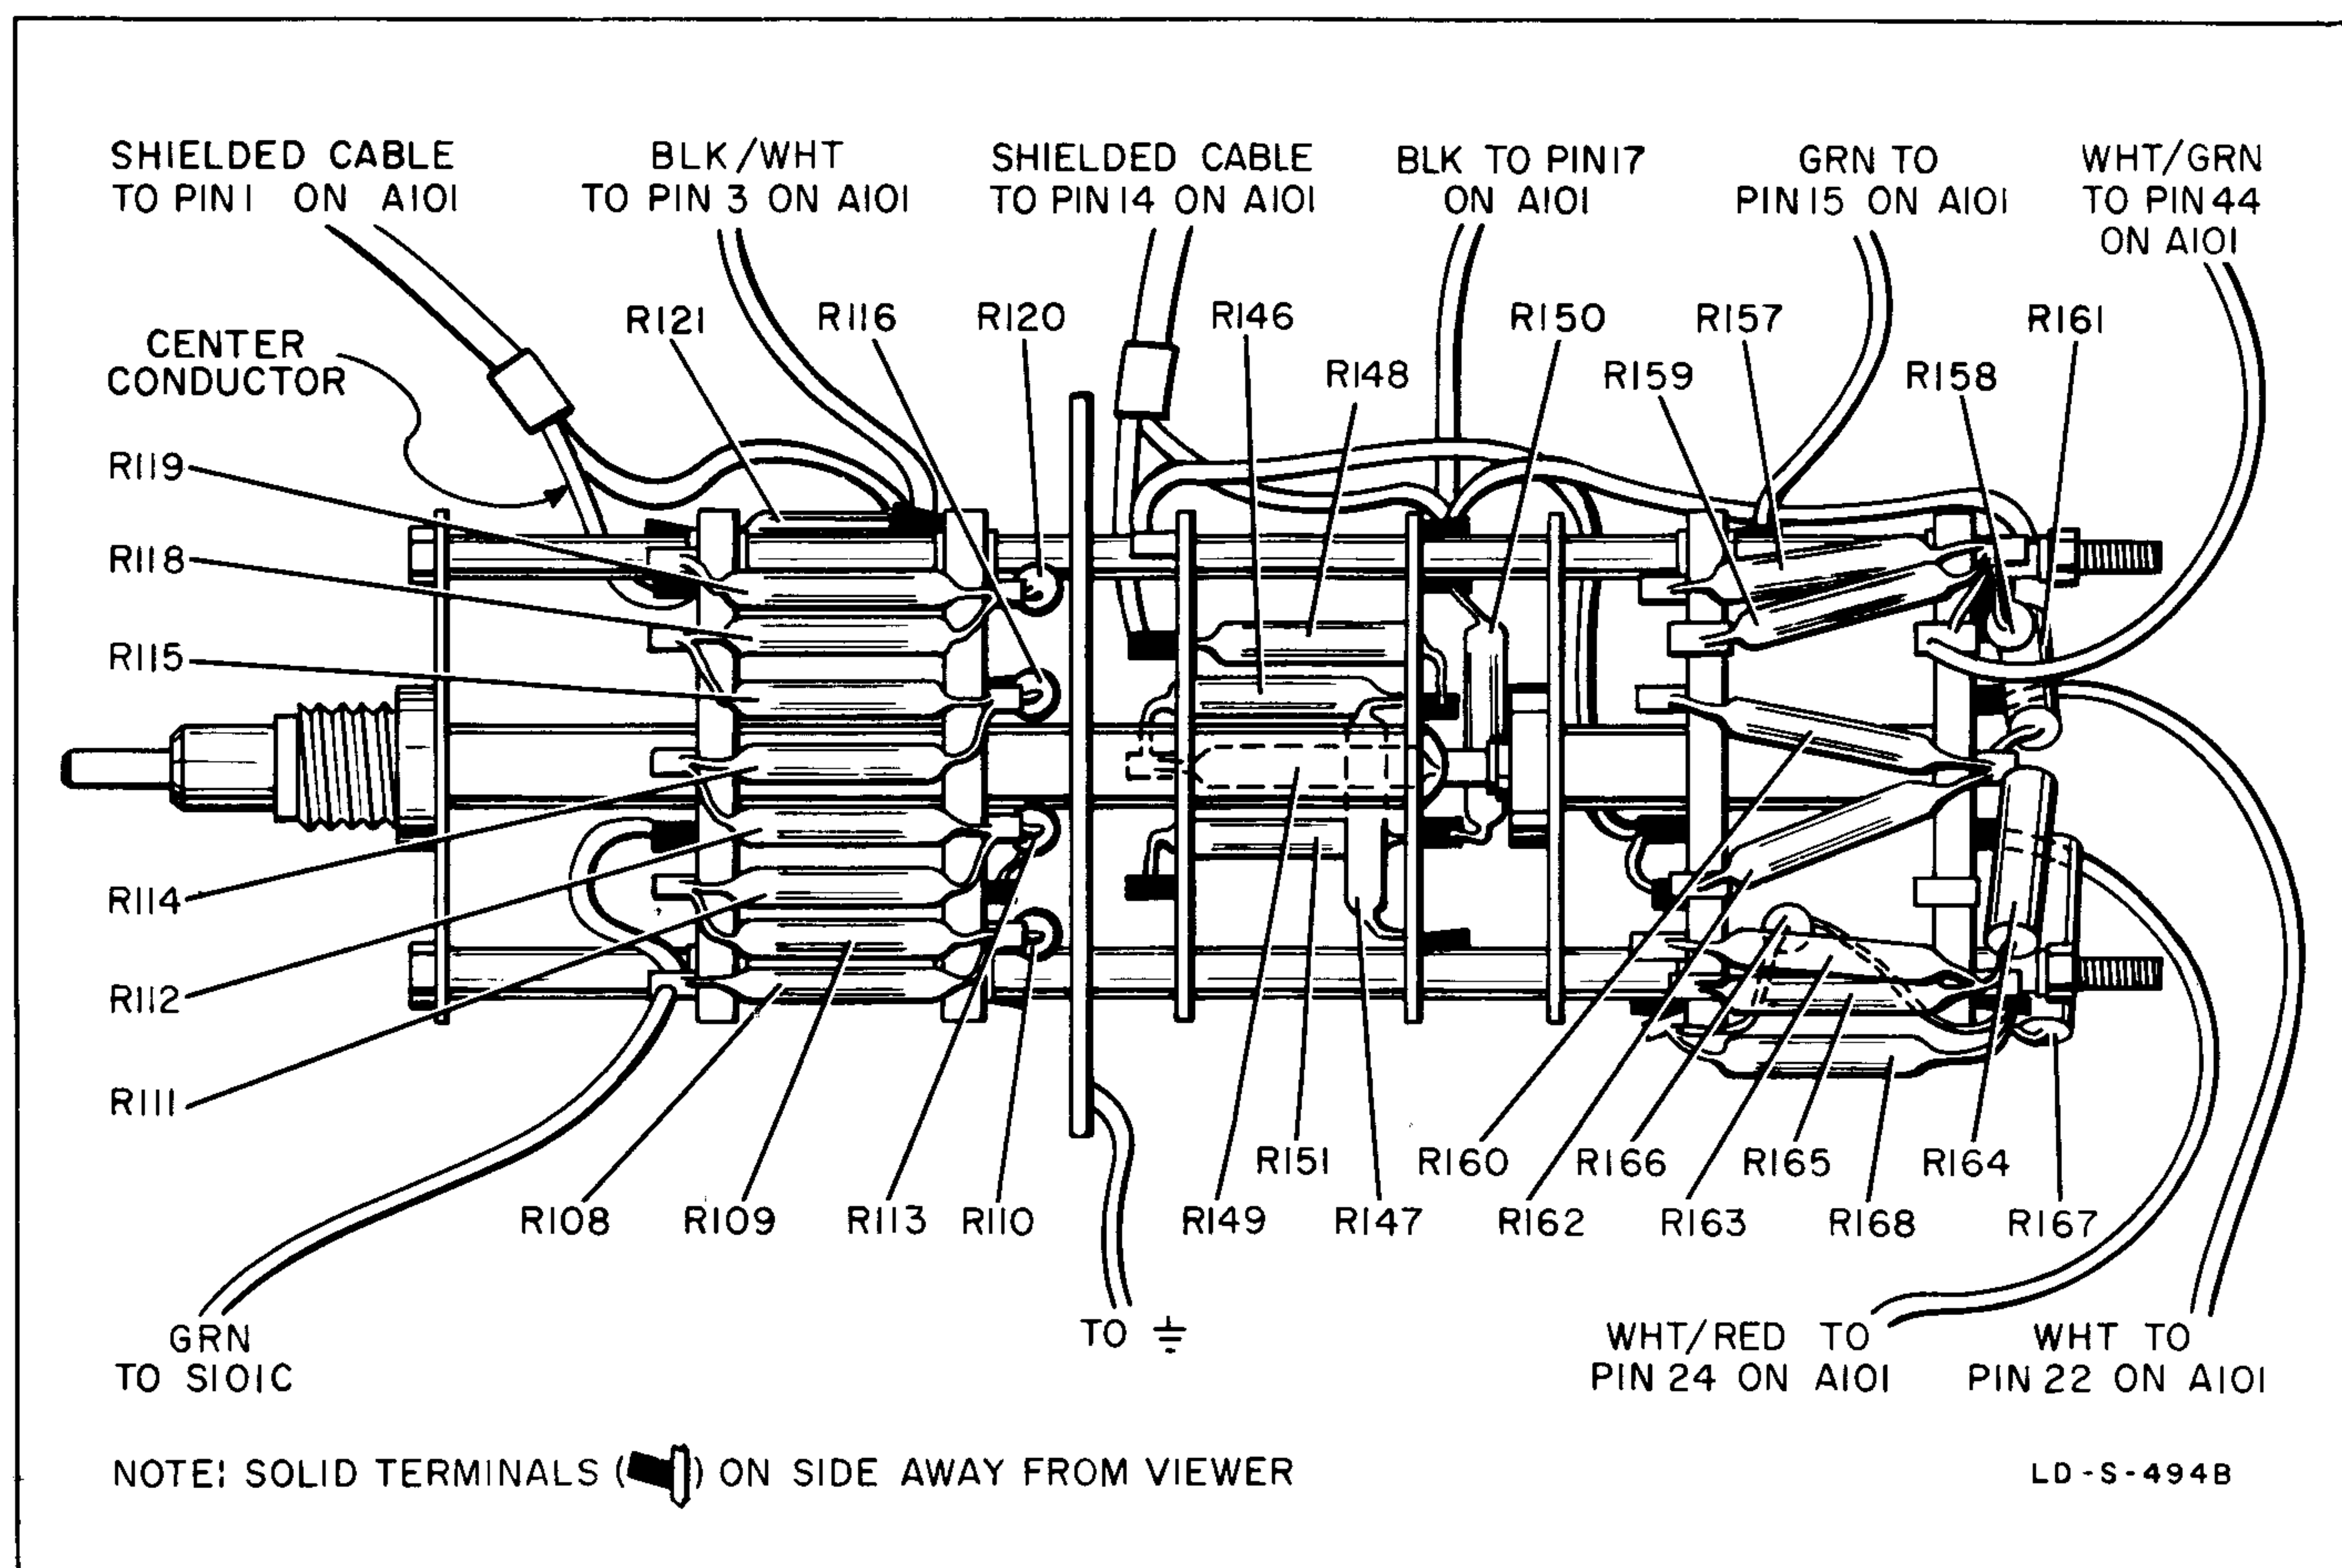

Figure 5-7. S102-S103 RANGE-EXPAND Switch Component Identification
- Remove screws from side casting which hold (1) the mounting bracket at the back end of the INPUT SELECTOR-BIAS CHECK and the EXPAND-RANGE assemblies and (2) the metal cross member on which the input transformer T101 is mounted. Use care to avoid damage to leads from T101.
- Unsolder connecting wires. Mark each to indicate which lugs to resolder wires to. See figure 5-7 for wire colors and connections.